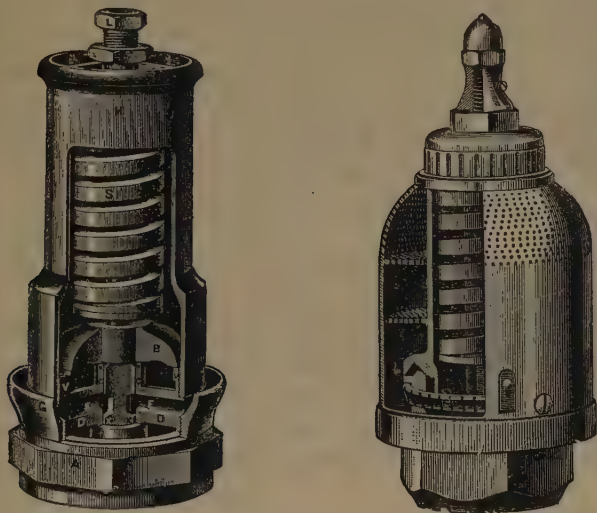

Fig. 102. Crosby Locomotive Pop Safety-valve. Fig. 103. Meady Muffled Locomotive Pop Safety-valve.
A. The valve rests on two flat ring-shaped seats lying in the same plane and forming part of the shell, which is in two parts, an inner and an outer cylindrical chamber, connected by hollow horizontal radial arms between which the steam passes, acting on that part of the valve which shows above and between the two valve-seats. (See Fig. 102.)